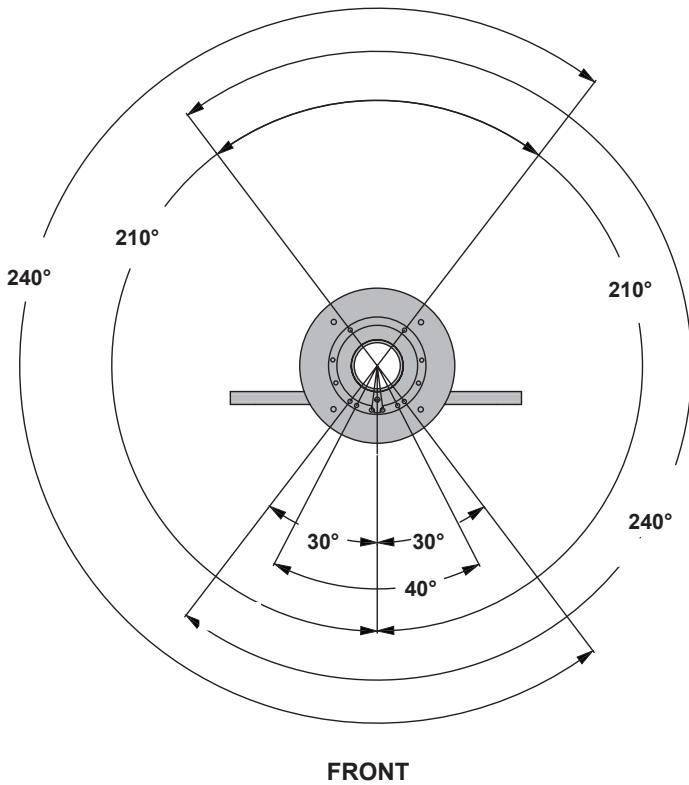

fig. 4.1
- 4** Refer to fig. 4.1 and 4.2, select the desired swivel degree. Using a 3/32" allen wrench, fasten two set screws (**K**) where indicated below to the outside of desired angle in steel base (**C**).